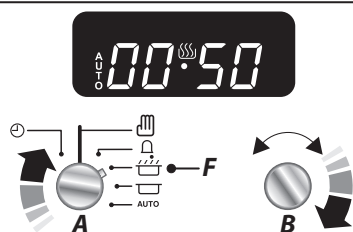

Fig. 3.10
2. Turn the **Timer (A)** knob to the **Stop Time (G)** setting (Fig. 3.10). The display will show the current time of day plus the 'cook time' you just set.